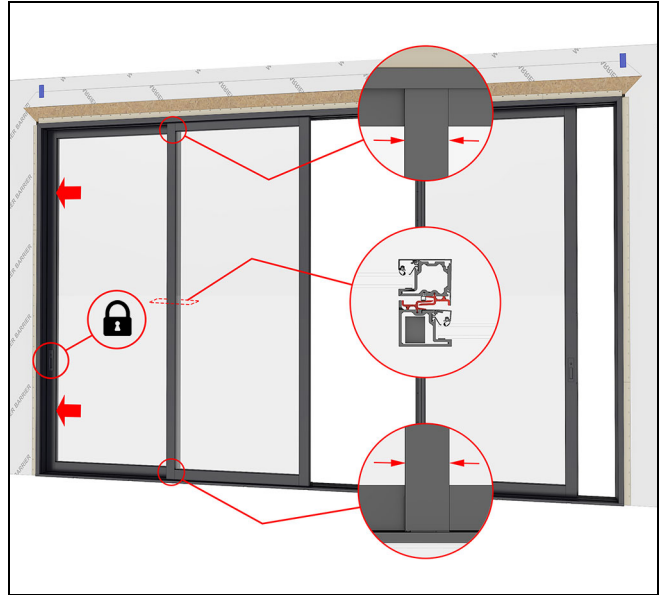

Figure 167 XOOX
9. Close and lock the operator panel. The interlocks should engage and the stationary panel may move slightly. If the stationary panel did not move, firmly slide the stationary panel opposite the closing direction of the operator panel to fully engage the interlocks. See Figure 167.